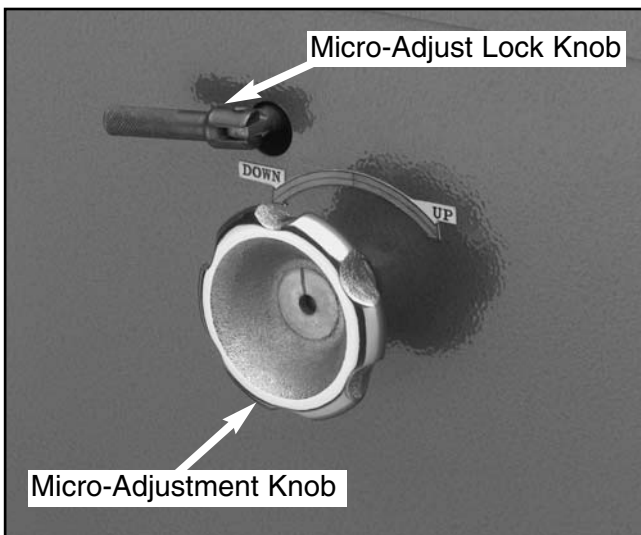

Figure 9. Model G1066Z rear drum adjustment control.
4. For Models G1066/G1079 repeat **steps 1-3** for the other drum. Tighten the lock nuts. Model G1066Z has micro-adjustment knobs on the sides of the machine for rear drum adjustments. See **Figure 9**. Both drums should now be properly adjusted. **Do not change the table height until the lock nuts are tight.**